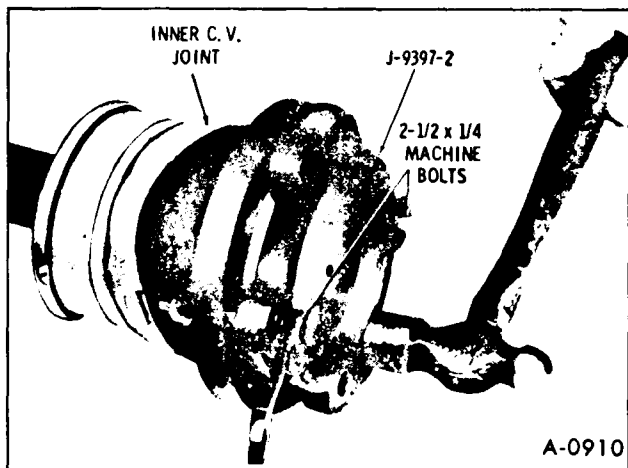

Figure 29-Installing Cover Into Housing
8. Install cover into housing using existing A/C Tool No. J-9397-2. Attach two machine bolts ($1/4" \times 2-1/4"$ Lg.) as shown in Figure 29 and tighten bolts alternately while tapping lightly with hammer until cover bottoms.